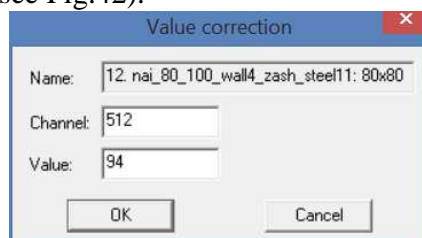

Figure 42. Window **Value correction**
**Set channel value**– calls a dialog box where user is able to specify a value for a certain channel in the spectrum (see Fig.42).